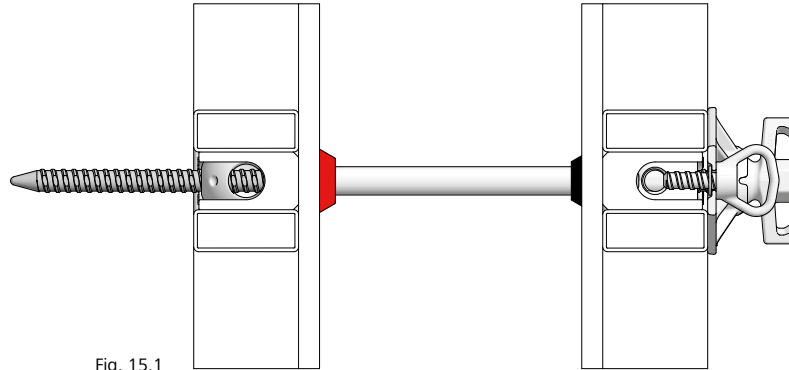

Fig. 15.1
- Single-sided tying with XT tie rod DW 20 and plastic tube (Fig. 15.1)